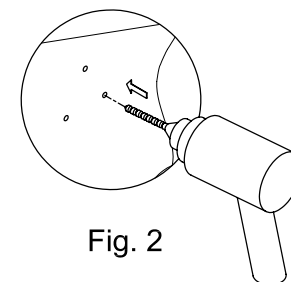

Fig. 2
- Step 2. Drill holes at the marked locations.(Fig.2)